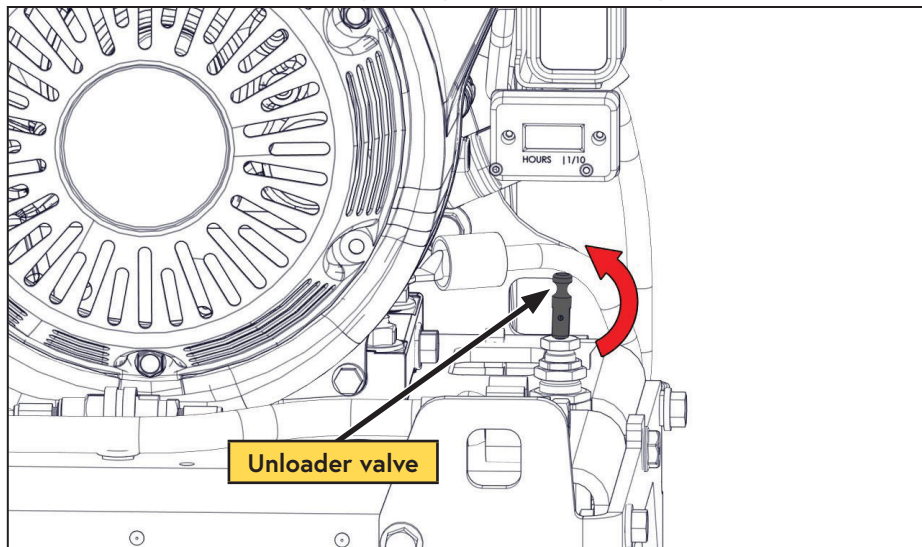

Figure 12 — Unloader valve
- 4) Actuate the unloader valve by pulling out the handle (Figure 12).